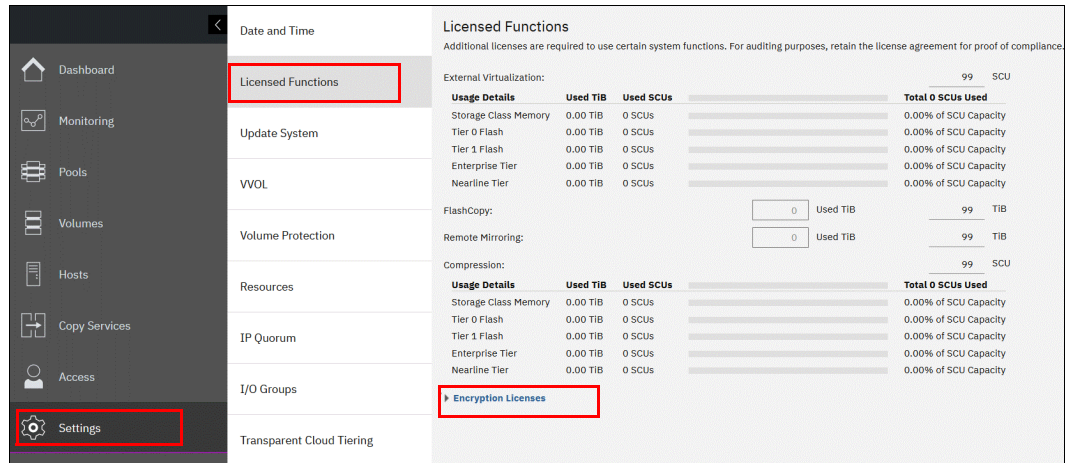

Figure 12-9 Expanding Encryption Licenses section on the Licensed Functions window
2. Click **Encryption Licenses**, as shown in Figure 12-9.